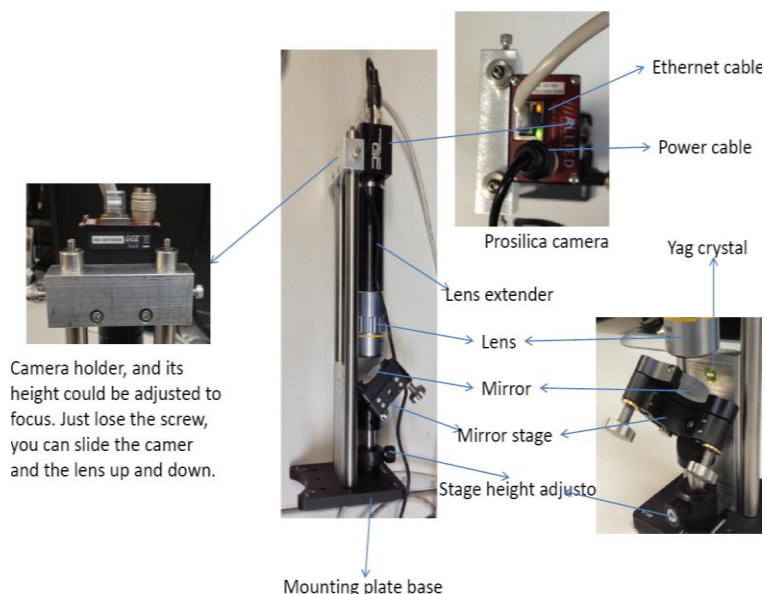

Fig. 1. The prosilica camera set
3. Then type “start_medm_prosilica” in another terminal, and the medm window will pop up as shown in Fig 1;